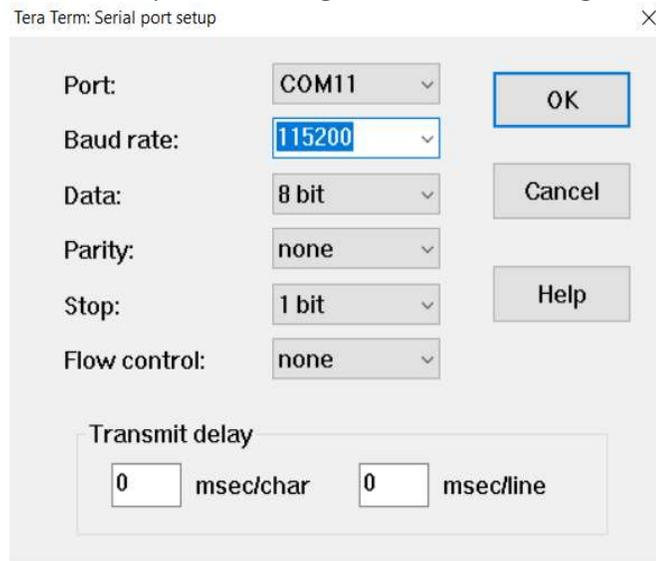

Figure 17: Tera Term Serial port setup and Connection
- Click on “Setup” and select “Serial port” and change the Tera Term settings as mentioned in Figure 17